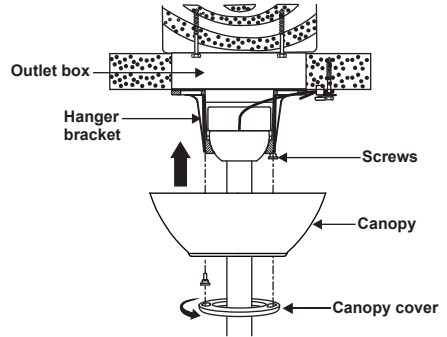

Figure 14
Step 2. Slide the canopy up to hanger bracket and place the key hole on the canopy over the screw on the hanger bracket, turn canopy until it locks in place at the narrow section of the key holes. (Fig.14)